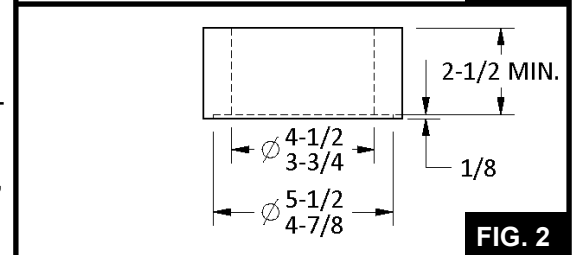

FIG. 2
- ◆ Center Bushing (**See FIG. 2**)
8.7 Install new Link bushing with recommended bushing press tooling (**See FIG. 2 on page 4**).